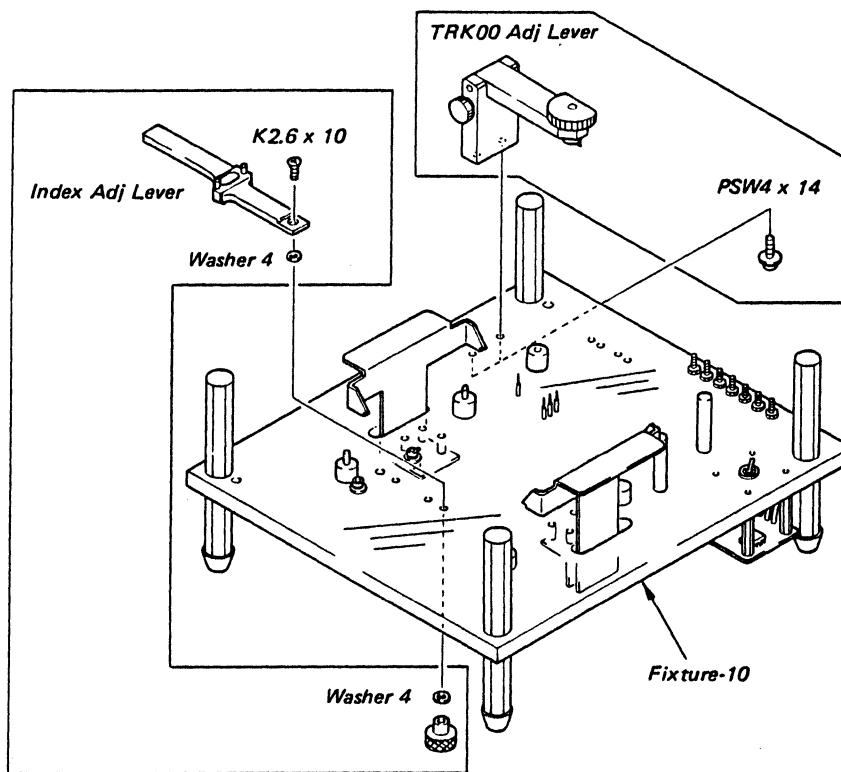

Fig. 2-13 Index Adj. and TRK00 Adj. Levers Installation
(4) Installation procedure of Index Adj. and TRK00 Adj. levers into Fixture-10. (Refer to Fig. 2-13)